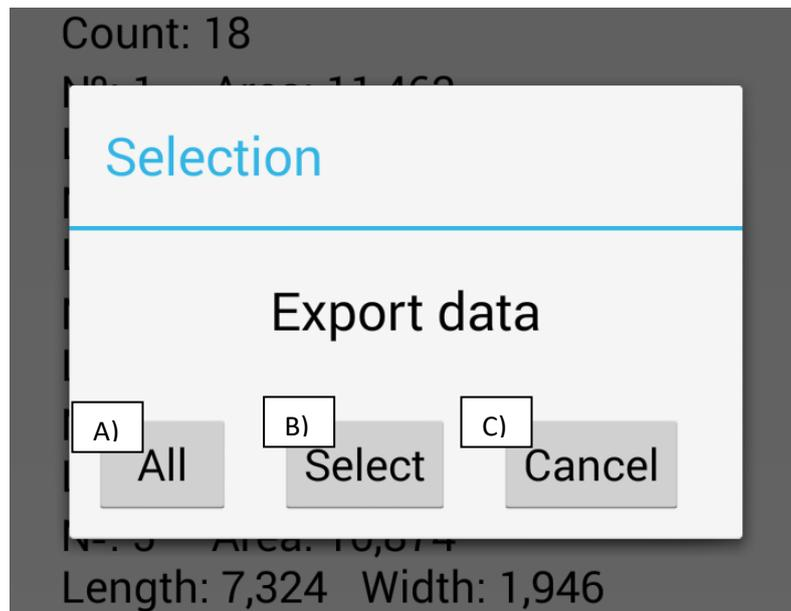
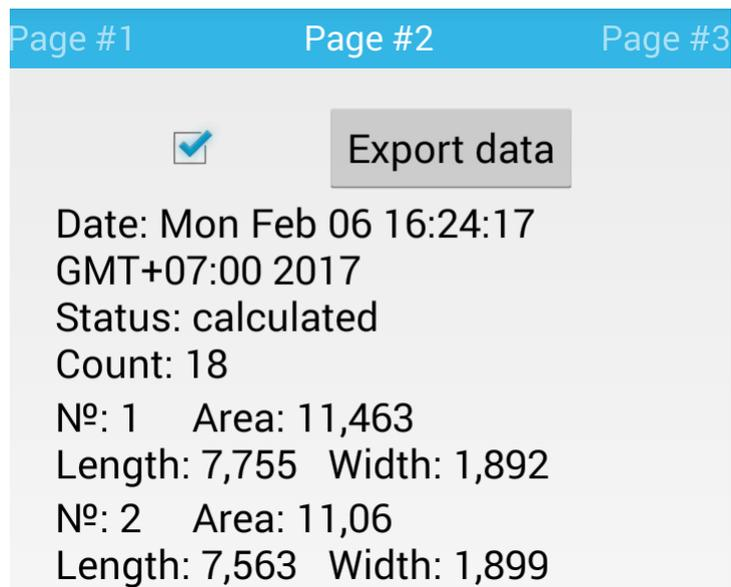

Figure 7. Export data panel. A) Button to save all collected data; B). Option to select part of data to save; C) Cancel button to close export data menu.
Figure 8. Data export panel.
- 5) To export the data choose the "Export data" option (Fig 6, B). The menu panel will appear with three buttons. To export all collected data click "All" button (Fig 7, A). To choose a portion of the data to save, click "Select" button (Fig 7, B) (Fig 8). Data will be saved in the device in /seedcounter/export.tsv file.